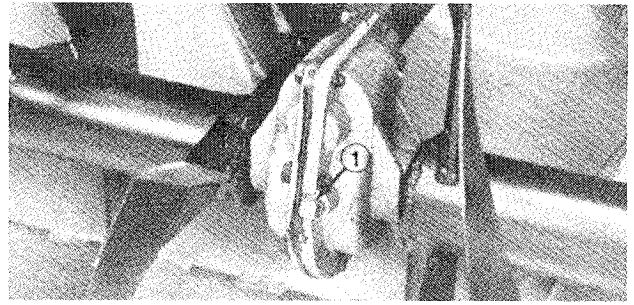

Figure 13
1. With snowthrower lowered and on a level surface, remove pipe plug from auger gear box (Fig. 13) by placing the open end of a 3/8" drive socket extension over plug and using a 3/8" open end wrench on the square end of the extension.